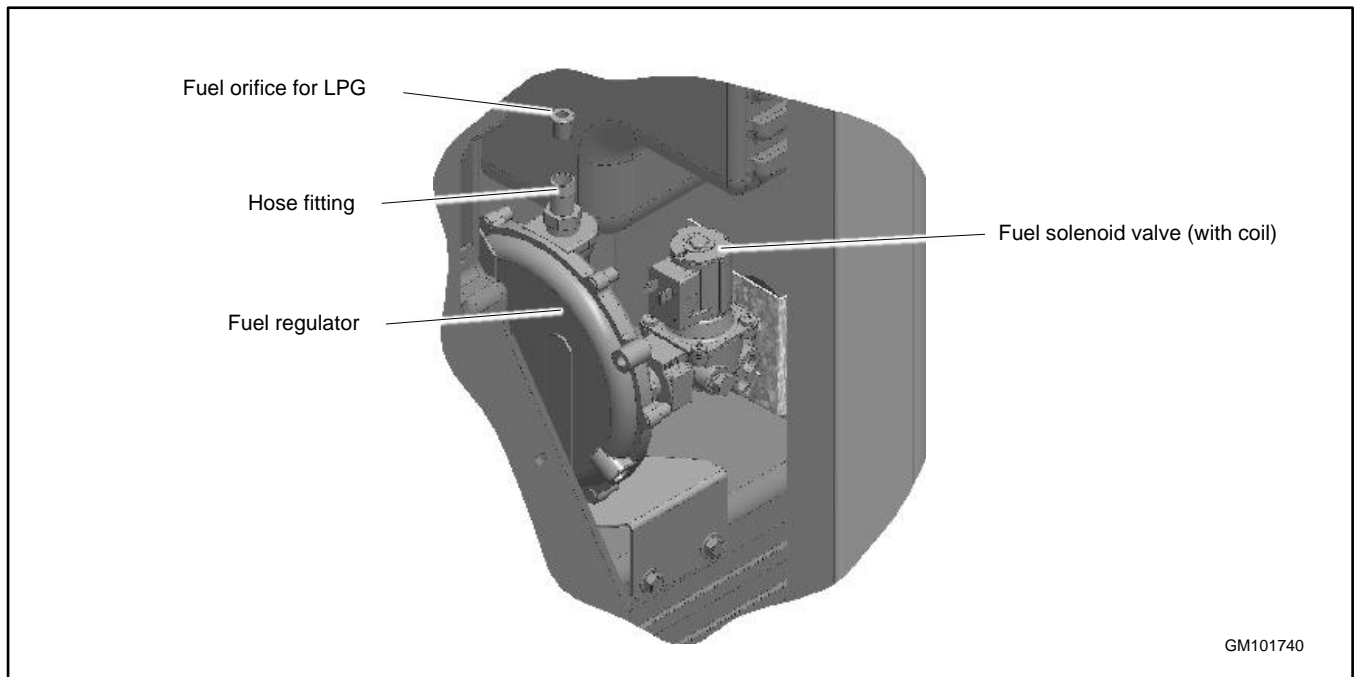

Figure 15 Fuel Regulator and LPG Orifice, 20RCA/L
For LPG fuel, an orifice is used in the fuel line. The unit is typically shipped set up for natural gas, with the loose orifice tied near the fuel solenoid valve. To convert to LPG, install the LPG orifice as described below. See Figure 15 for the fuel system component locations.
5. Remove the hose clamp and fuel hose from the hose fitting. See Figure 15.
6. Insert the LPG orifice into the hose fitting. See Figure 15.